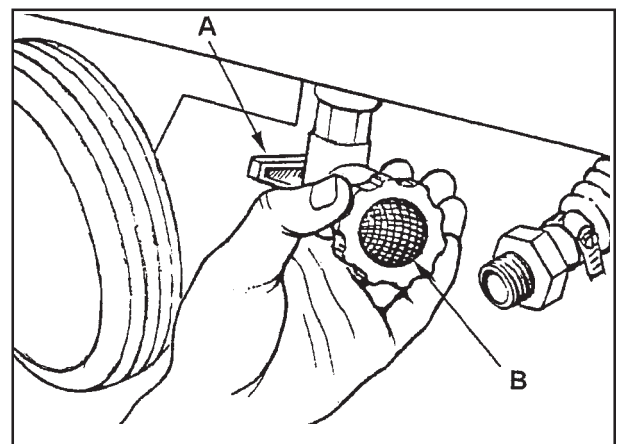

Figure 14
5. Turn solution valve "OFF". See figure 14 (A).
6. Locate the solution filter screen. It is located on the back of the solution valve. See figure 14 (B).
8. Remove the filter screen. See figure 14 (B).